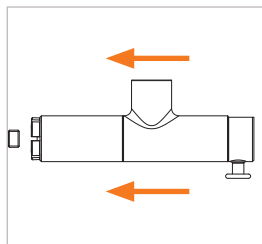

Figure 10
- ▶ With the valve button (Pos. 4) pressed, insert the connector straight onto the test piece until the front seal (Pos. 7) touches the test piece (Figure 10). Doing so will prevent any damage to the front seal caused by any sharp edges on the test piece and ensure a correct connection. **Attention:** Insert the connector carefully and not with force onto the test piece.